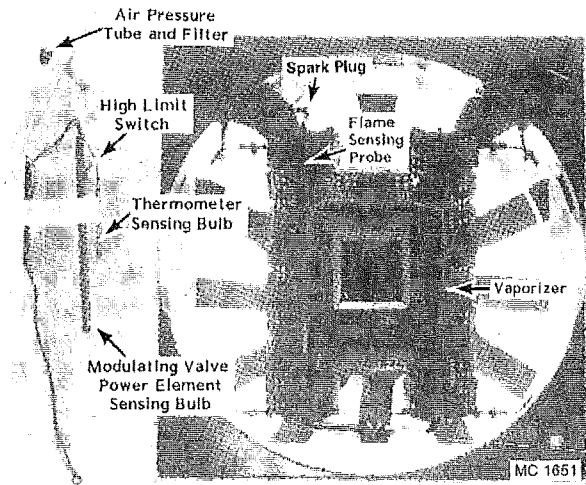

Figure 18 - 6 MBTU LP Burner - 620 & 820 Top
- Remove the Air Pressure Switch Weather Cover and then the (2) wires from the air pressure switch power terminals. Check continuity of the (2) wires. If wires are okay, remove air pressure switch from tube and filter assembly. Check to be sure that the $\frac{1}{8}$ " (3.2mm.) vent hole in the bottom of switch is open. Then check for an obstruction in the air pressure tube and filter assembly. See Figure 18. Now replace air pressure switch, (2) wires, and weather cover that were removed above.